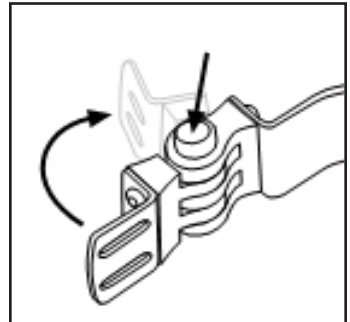

Fig. 11
2. Swing the pad bracket away from the user. *Fig. 11*